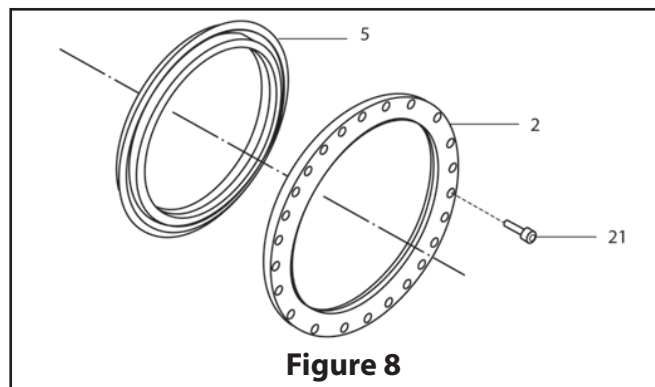

Figure 8
2. Remove the insert screws (21) and the insert (2). If the insert does not lift out easily, tap it out from the shaft side using a wooden or plastic rod and a hammer. Do not strike the valve directly with a hammer.
3. Remove the seat (5) and discard.
8. Verify the disc is in the level position and install the seat (5) and insert (2) (See **Figure 8**).